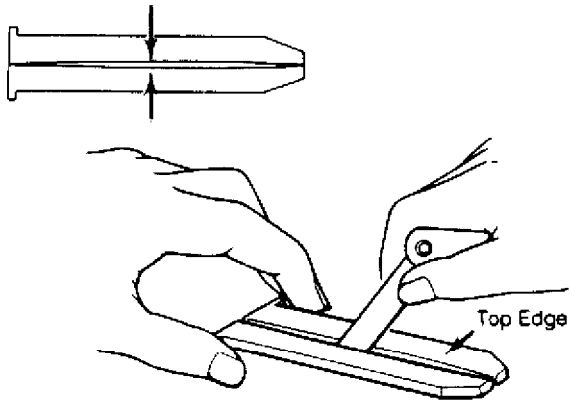

Fig. 15: Apex Seal Warpage
2) Check for warpage by measuring the clearance between the top surfaces of 2 apex seals with a feeler gauge. Replace all 3 seals if clearance exceeds .0024" (.06 mm). See Fig. 15.